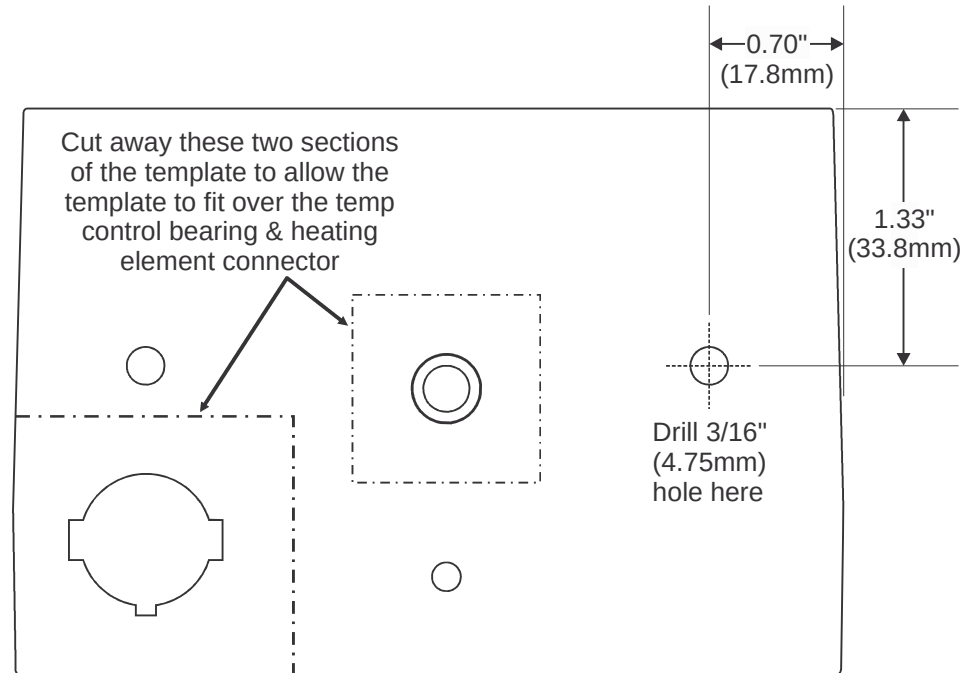

Figure 1.
4. Using Figure 1 (see next page), a scale drawing of the front panel, as an overlay of the drilling template, lay the template onto the front panel and CAREFULLY center punch and then drill a 3/16" (4.75mm) hole. Then use a much larger (about 1/2" / 13mm) bit (hand-held), or a hand reamer bit, to 'hollow' out a bit of the back side of the hole just drilled to allow the new LED to extend out the front of the panel just a small distance.
Figure 1 - Cut out the template at right. Then cut out the two marked areas so the template will clear the temp. control bearing and the heating element jack when laid on top of the front panel. Tape the template into place on the FRONT SIDE of the front panel. CAREFULLY center punch the point where the hole is to be drilled. Drill a 3/16" (4.75mm) hole from the front. You may want to first drill a smaller 'pilot' hole and work up, in steps, to the larger final hole diameter. This will often help reduce the chances of paint chipping, etc. Then, use a larger (hand-held) bit (or a reamer) from the back side to 'hollow out' the back of the hole just enough to allow the tip of the new LED to extend out the front of the front panel to the same extent as that of the red LED. If the green LED is allowed to protrude a bit farther than the red LED, it will be more readily noticed as you use the device in a normal working environment.